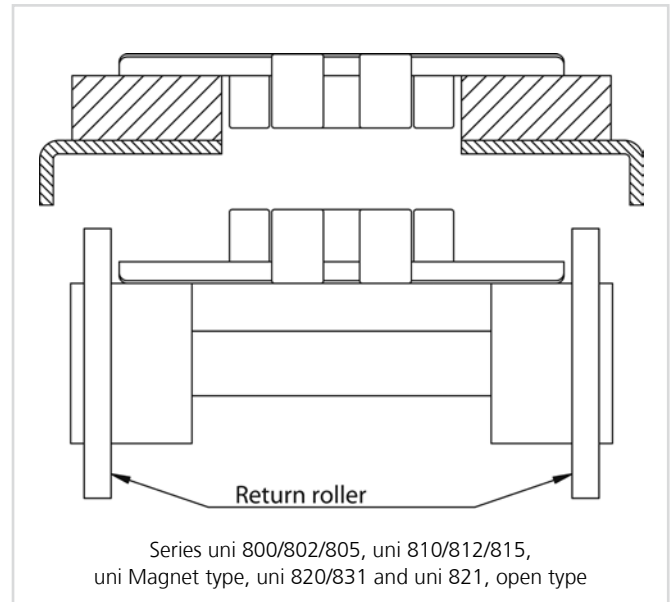

Figure 3-46
- Straight running chains can be supported with rollers on the return section. Figure 3-46. The distance between the rollers has to vary if there is more than one roller on the return section.
- Often there are no returnways. Instead the chain runs freely or is supported by rolls or planes. Figure 3-46.